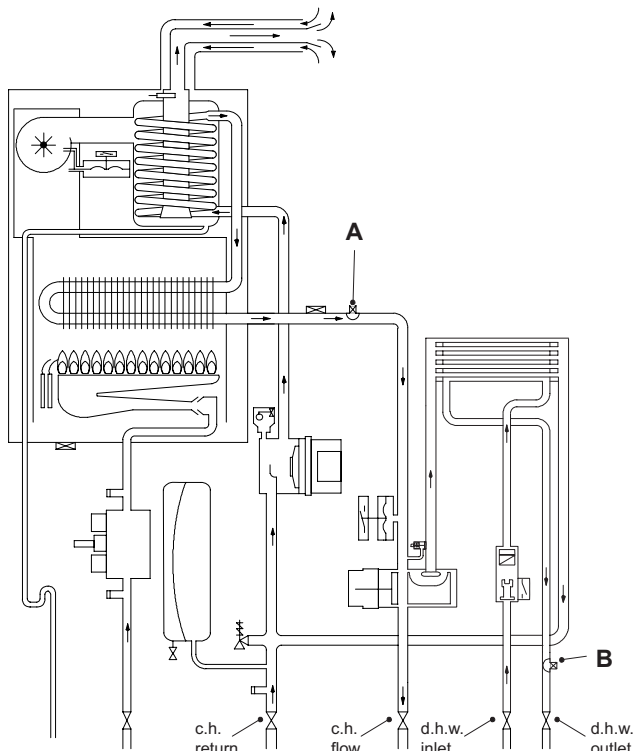
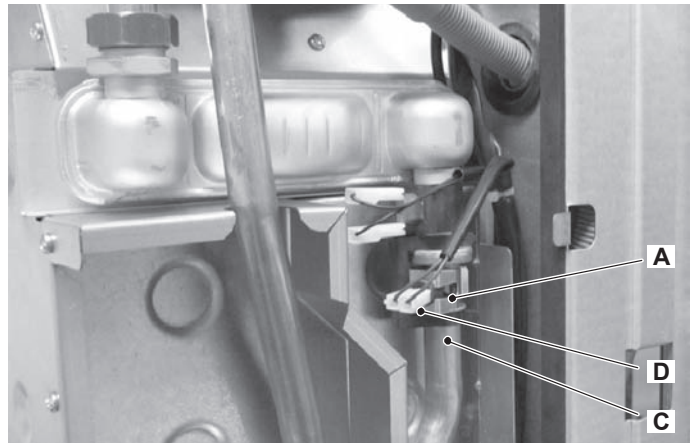
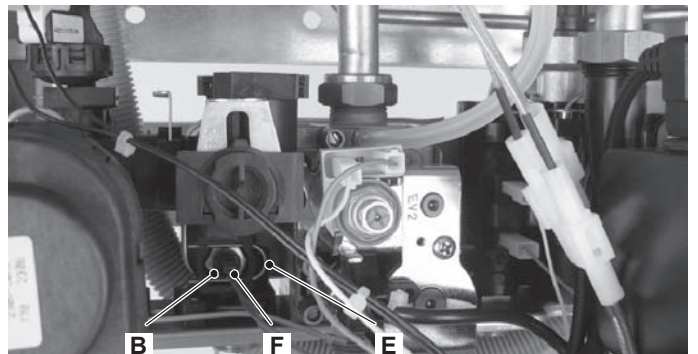

Figure 15.2
Figure 15.3
Figure 15.4
On the boiler there are two Temperature probes. One on the output of the primary heat exchanger (c.h. Temperature probe) A in Figure 15.2 and Figure 15.3; one on the output of the d.h.w. heat exchanger (d.h.w. Temperature probe) B in Figure 15.2 and Figure 15.4.
- 2 Remove the electric connector D and remove the c.h. Temperature probe A (Figure 15.3).
- 3 Remove the fixing spring E (Figure 15.4).
Temperature probe B (Figure 15.4).